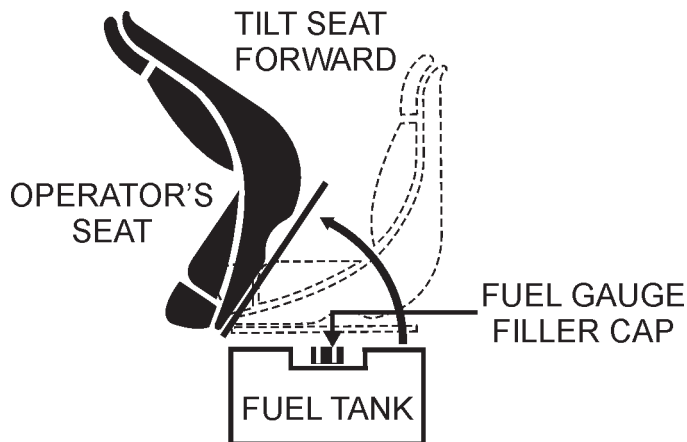

Figure 10. Fuel Tank Access
2. Tilt the operator's seat (Figure 10) **forward** to gain access to the fuel tank.